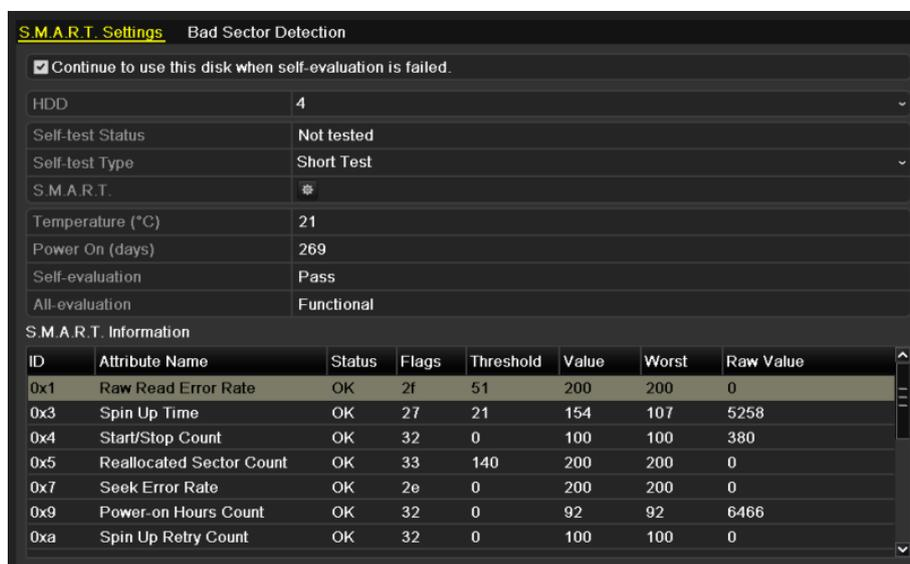

Figure 11. 23 S.M.A.R.T Settings Interface
2. Select the HDD to view its S.M.A.R.T information list, as shown in Figure 11. 23.